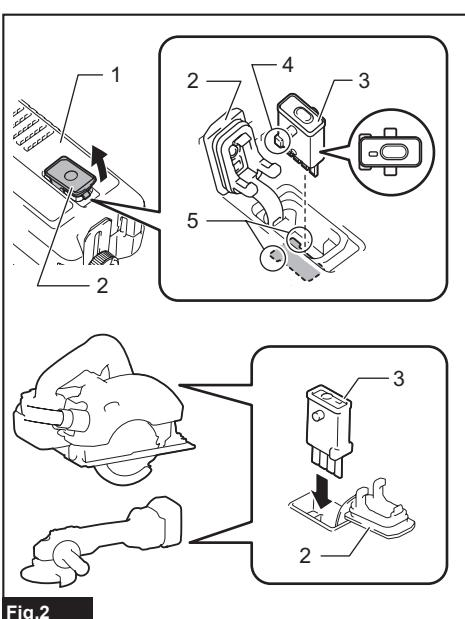

Fig.2
► Fig.2: 1. Adaptor 2. Lid 3. Wireless unit